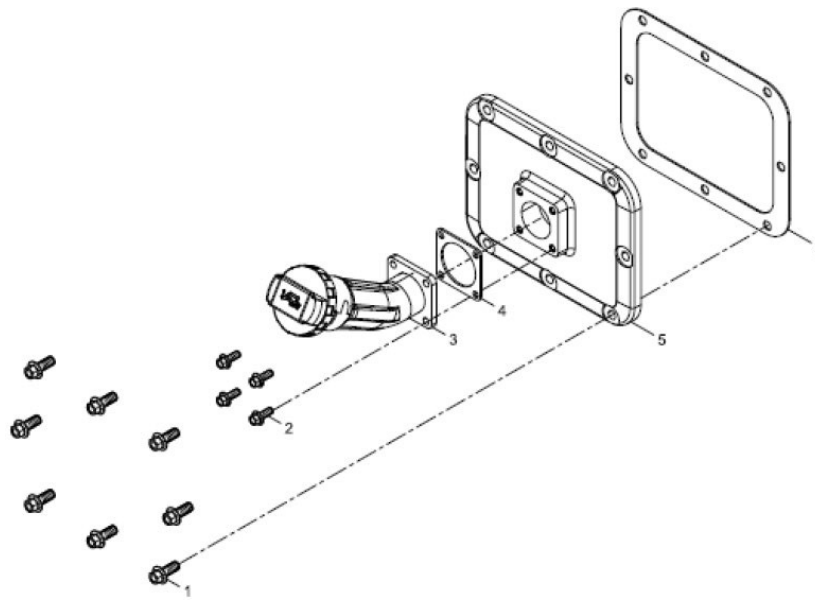

Figure 9. Oil Filling Tube Assembly
1. Loosen and remove bolts (Figure 9, items 1 and 2).
2. Remove oil fitting tube (Figure 9, item 3).
3. Remove oil filler tube gasket (Figure 9, item 4).
1. Place oil filler tube gasket (Figure 9, item 4) on the cover (Figure 9, item 5)
2. Place oil filling tube (Figure 9, item 3) onto gasket (Figure 9, item 4).
3. Insert and tighten bolts (Figure 9, items 1 and 2).